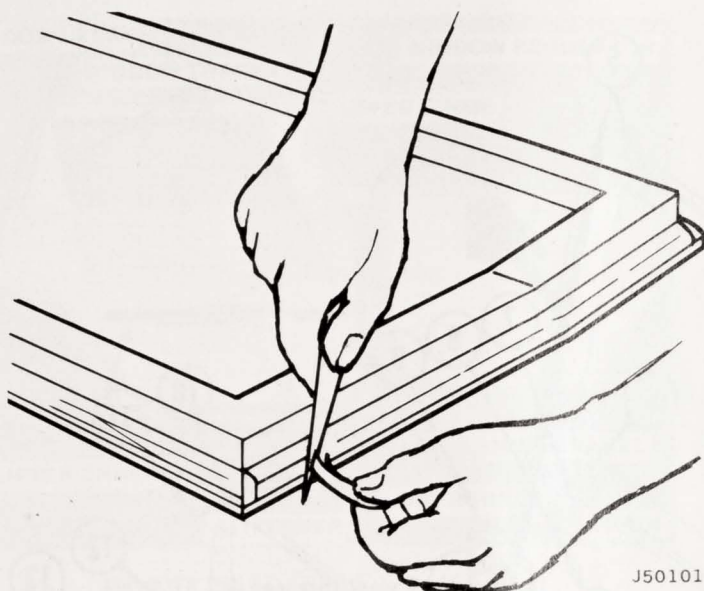

Fig. 2-34 Trimming Rubber Moulding Strip
(3) Apply horizontal strip B to bottom flange of door, positioning it with one end even with outside edge of strip A and extending it to opposite edge of door.
(4) Apply vertical strip C to flange on hinge side door, butting one end against the edge of strip B. Extend strip upward to top edge of door, with edge of moulding butted against box section. Trim strip flush with edge of door with sharp knife or single-edge razor blade. Hold blade in a vertical position, stroking it smoothly up and down, using edge of door as a guide and using other hand to pull cutoff material away (fig. 2-34).
(5) Apply horizontal strip D to face of box section on top of door, extending it from one edge to the